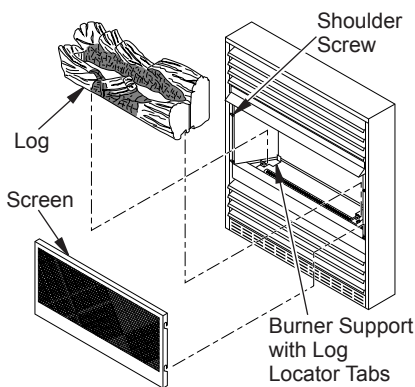

Figure 35 - Installing Log and Screen
1. Remove log packaging material and discard packaging. Gently place log on burner support (see Figure 35). Log should fit flat against top of burner support and log locator tabs fit into slots under log. Do not allow log to contact flame. If flame contacts log, soot will be created.